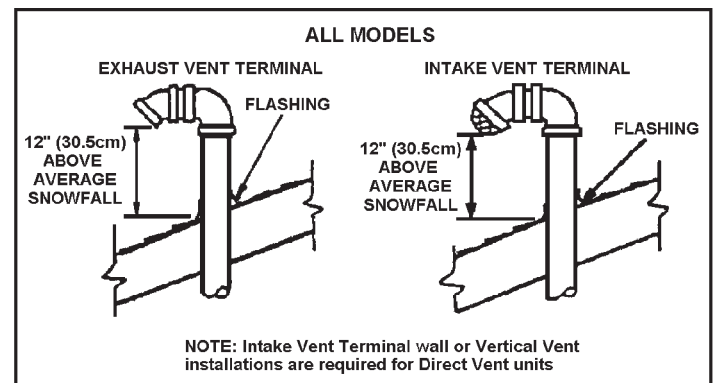

FIGURE 11.
6. Terminate intake terminal and exhaust vent terminal facing down as shown in Figure 11.